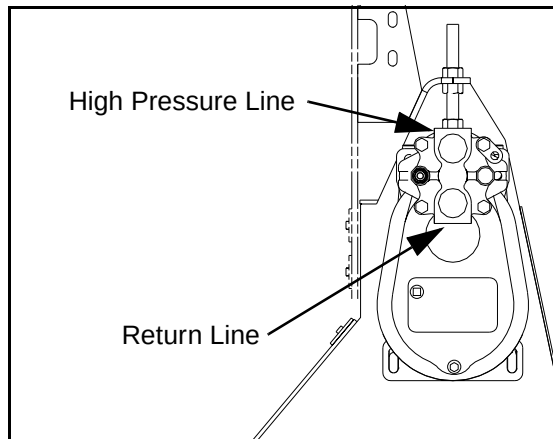

Figure 5 - 30 Spreading Auger Hydraulic Motor
- 2) Install a low pressure line (500 psi min.) connecting port "M4" and port "M5". (Figure 5 - 28) and (Figure 5 - 29) This removes the effects of any control pressure on the servo piston.